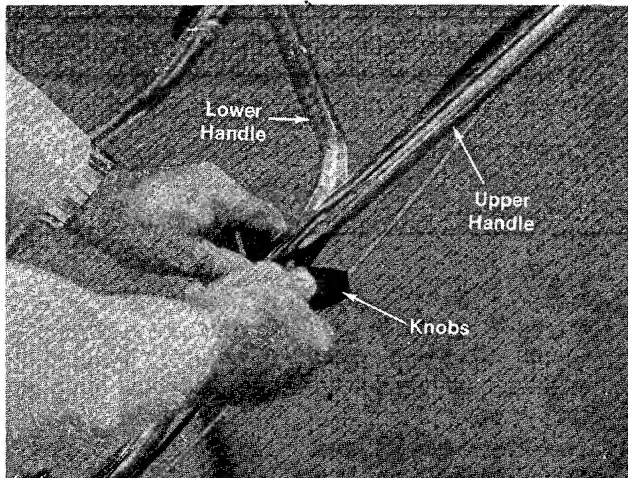

FIGURE 2
4. Assemble the upper handle with the engagement lever attached, to the lower handle with the two knobs. Make sure the single hole for the throttle is on the left side of the handle. The knobs can be either to the inside or the outside of the handle. (See figure 2.)